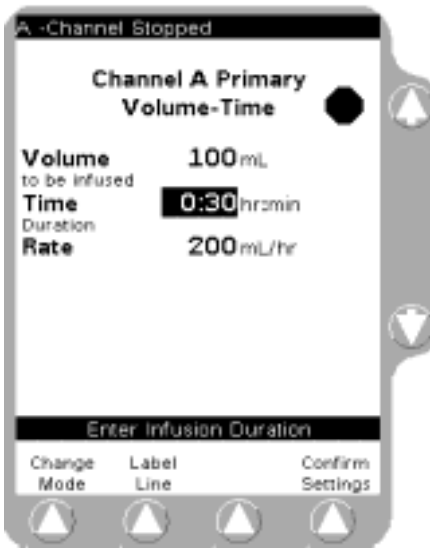

Figure 5-28 Confirm Settings
- Press the **Confirm Settings** soft key, then press the **START** key to begin the infusion (Figure 5-28).